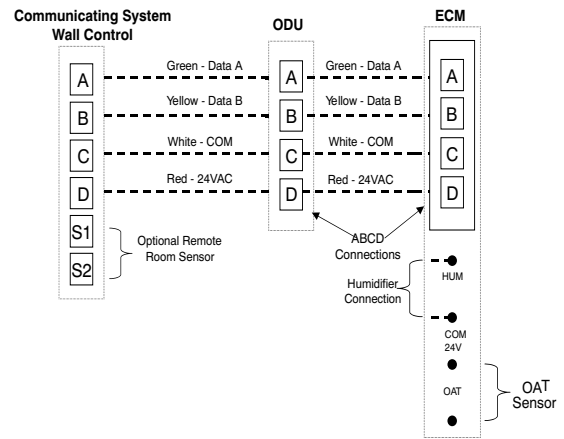
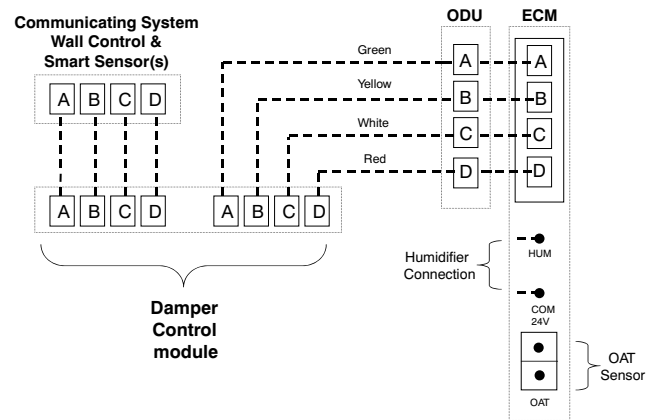

Fig. 15 – Universal Two-Wire Connection
Fig. 16 – Zoning Connection for Communicating Indoor Unit with 2-Stage Communicating split geothermal unit
User Interface (UI) is designed to self-program with the GZA unit when connected to the ABCD connector on the ODU board. Only two (2) wires are needed from the UI for the AB connections since the GZA unit has a transformer for the 24v (see Fig. 15 and Fig. 16).